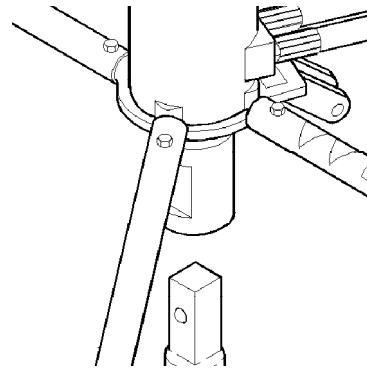

Figure 1. Installing Auger to model EA08101A
Align the button on the auger chuck with the hole in the coupler (15). Slide the auger chuck into the coupler until the button seats in the hole. See figure 1.